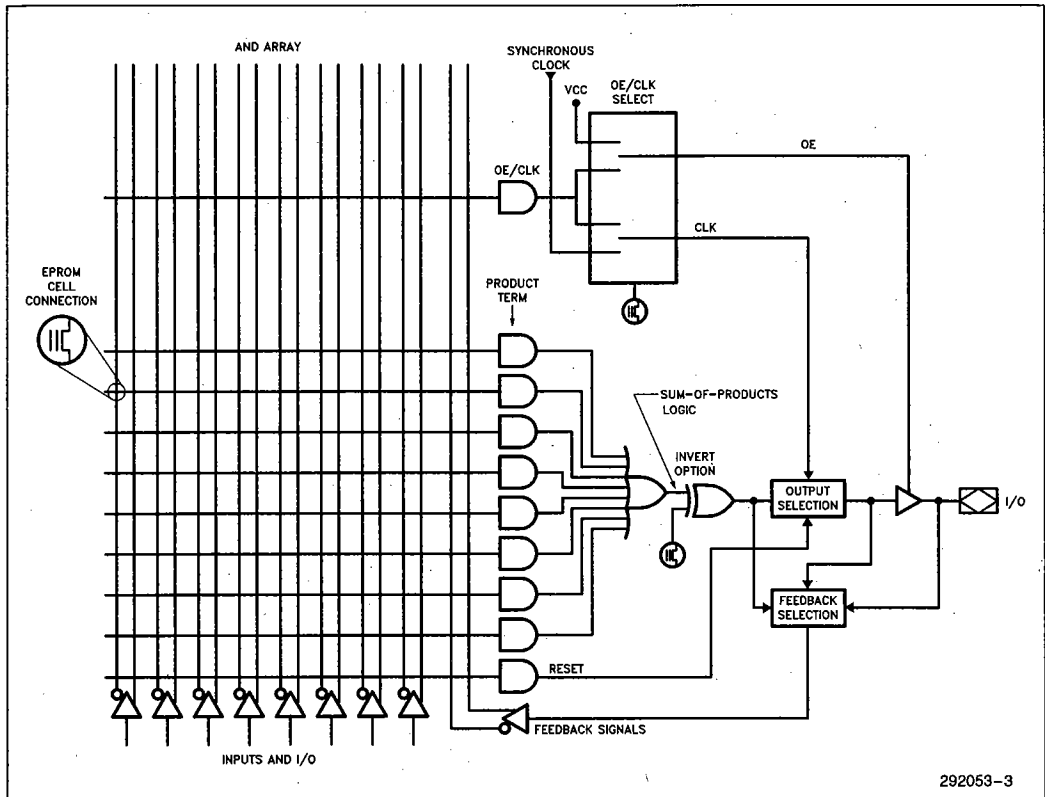

Figure 2. Basic Macrocell Architecture of the 5C180
**EXPLANATION:** Asynchronous clock and output enable can't be used at the same time in the same macrocell. The 5C180 basic macrocell architecture, Figure 2, shows why. A single p-term is shared between the asynchronous clock and the output enable. This means that both switches in the diagram can be up or both switches can be down. By trying to use a p-term output enable with an asynchronous clock, the top switch would have to be down while the bottom switch is up. This cannot be done as then the register would be clocked and enabled with the same signal.
**EXPLANATION:** As shown in the basic 5C180 macrocell architecture, Figure 2, only one product term (multiple input AND gate) is available for the register